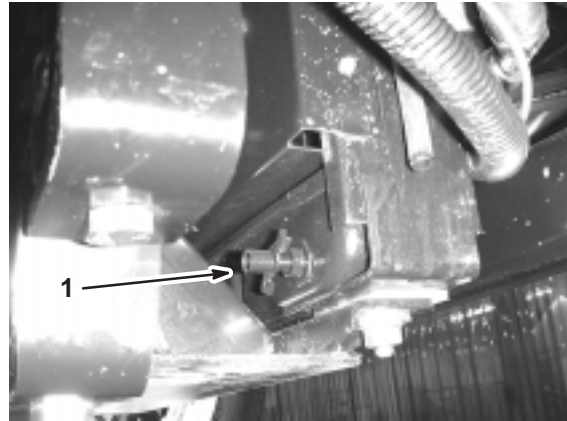

Figure 38
4. Open the drain (Fig. 38) and drain the coolant into the pan.